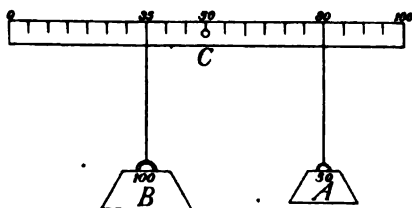

FIG. 87.—The two moments are equal about C.  $100 \times 15 = 50 \times 30$ .
**122. Moment of Force.**—The *effectiveness* of each force may therefore be determined by computing its *moment* about the fixed axis (see Art. 84), that is, by multiplying each force by its distance to the fulcrum or axis of rotation. Let a meter stick have a small hole bored through it at the 50 cm. mark near one edge, and let it be mounted on a nail driven into a vertical support and balanced by sliding a bent wire along it. Suspend by a fine wire or thread a 100 g. weight, 15 cm. from the nail and a 50 g. weight 30 cm. from the nail, on the other side of the support. These two weights will be found to balance. When viewed from this side *A* (Fig. 87) tends to turn the lever in a clockwise direction (down at right), *B* in the counter-clockwise direction (down at left). Since the lever balances, the forces have equal and opposite effects in changing its rotation as may also be computed by determining the